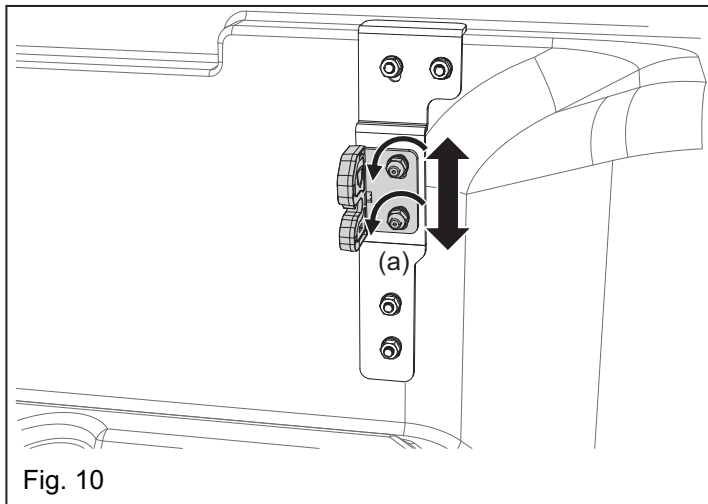

Fig. 10
10. Latch adjustment, Fig. 10.